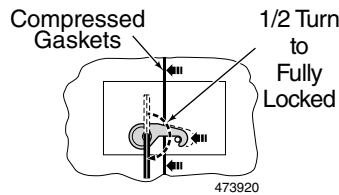

Figure 4. Locked Position
3. Check that the panels are still tight and properly aligned, then turn the cam lock 1/2 turn to the fully locked position. This will draw the panels tightly together. Install cam hole covers. See Figure 4.